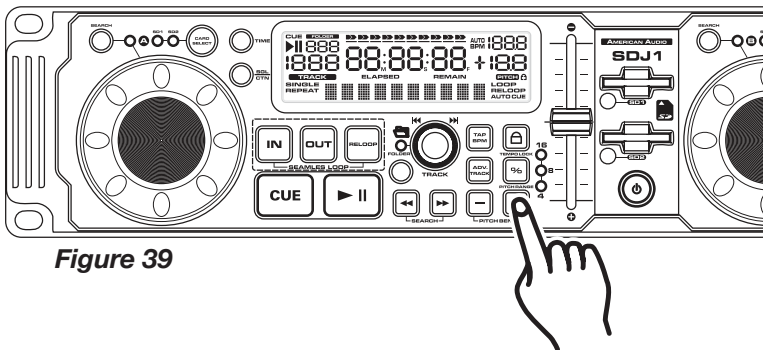

Figure 39
3. PITCH BEND BUTTONS (15):
The **(+) PITCH BEND BUTTON (15)** will increase track playback speed and the **(-) PITCH BEND BUTTON (15)** will decrease track playback speed. The extent to which the speed changes is proportionate to the amount of time the button is pressed. For example, if the **(+) PITCH BEND BUTTON (15)** is held down continuously as in Figure 39, the speed will increase and will continue to increase until it reaches the percentage the **PITCH PERCENTAGE BUTTON (14)** is set to. When you release the **(+) PITCH BEND BUTTON (15)** the speed will automatically return to its previous set speed.